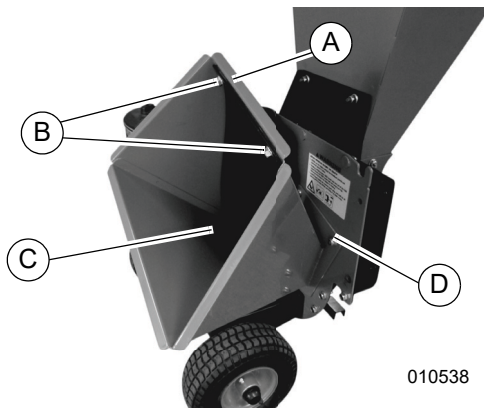

Figure 2-8. Attaching Chipper Chute
1. See Figure 2-8. Using a 7/16" and 3/8" wrench, remove a locknut (A) from one of the chipper chute guard bolts (B), position it in chipper chute (C), and loosely reinstall the locknut. Repeat for the second locknut. Fully tighten both locknuts.
2. Attach the chipper chute onto the housing studs and secure with three 5/16-18 flange locknuts (D) using a 1/2" wrench.